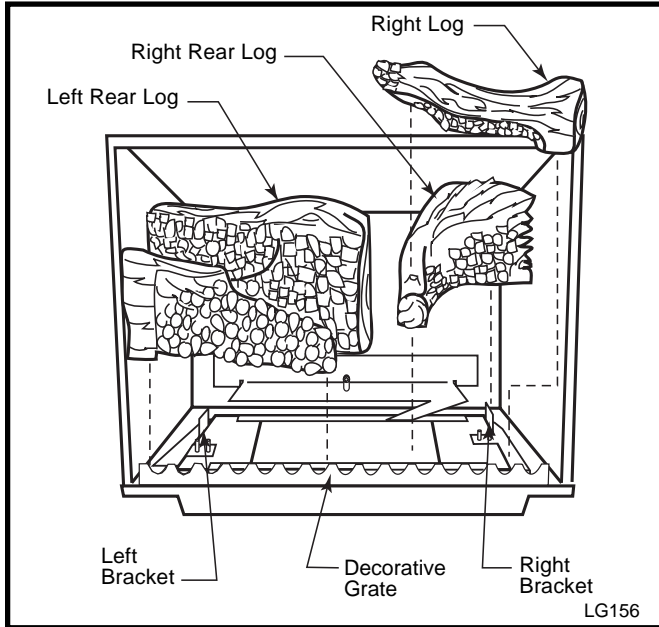

Fig. 28 Install the left and right rear logs and the right log.
2. Install the left rear log by placing it on the rear log bracket at the back of the firebox. (Fig. 28) The left rear log should touch the back wall of the firebox. Slide the left rear log to the left until the left side lines up with the left bracket. (Fig. 28) When the left rear log is in place the front left corner of the log should rest on the decorative grate.